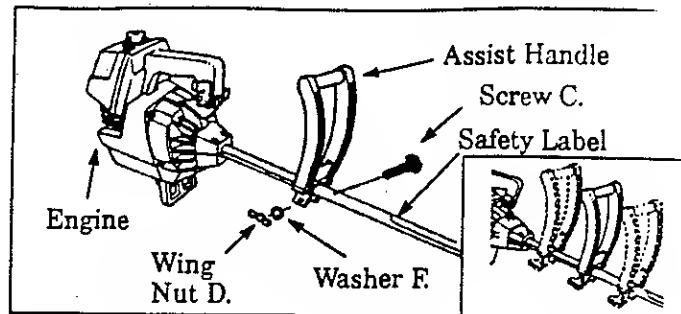

Figure 3
- a. Align the Assist Handle above the Safety Label and below the Engine. Figure 3.
- c. Insert the Assist Handle Screw "C." through the new hole in the Assist Handle. Figure 3.
CAUTION: When adjusting the Assist Handle for comfort, be sure that the Assist Handle remains between the Engine and the Safety Label on Drive Shaft Housing. Figure 3.
- e. Adjust Assist Handle up or down the Shaft Housing for comfort. Figure 3 (inset).